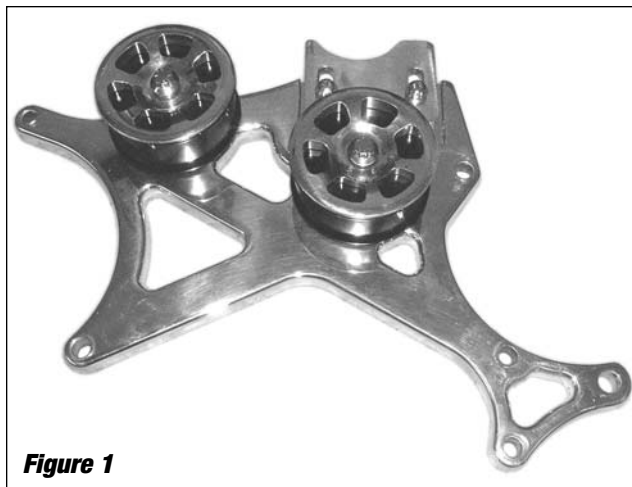

Figure 1
1. Assemble the snout support, bridge bracket, and idler pulleys. Attach the snout support to the bracket using the supplied M8 x 1.25 x 16mm long bolts. Attach the idler pulleys to the bracket using the supplied M10 x 1.0 x 45mm long bolts. Tighten the idler pulley bolts, but do not fully tighten the snout support bolts at this time (**See Figure 1**).